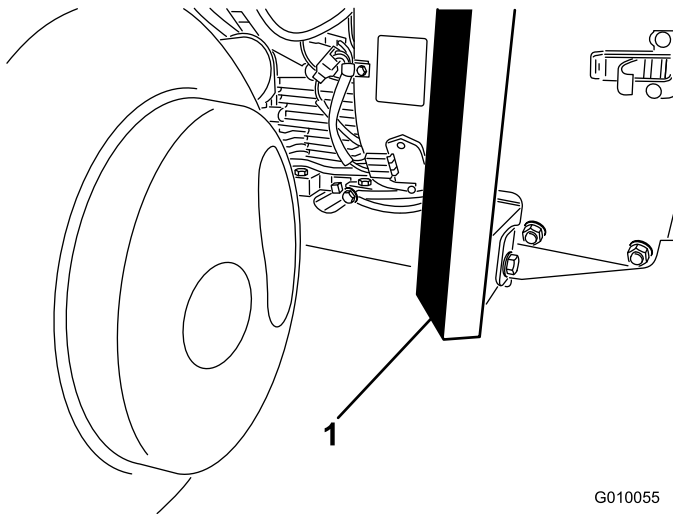

Figure 41
2. Position the jack securely under the front of the frame (Figure 41).